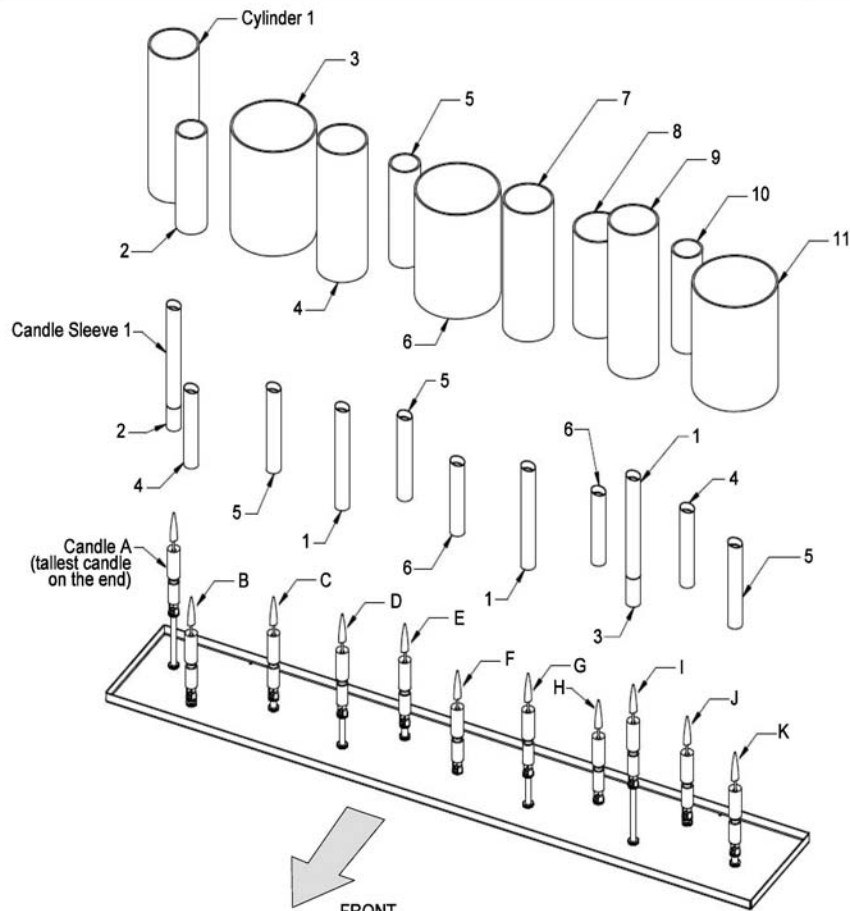

Figure 1
- 2 Install the white plastic candle sleeves over the three candles. See Figure 1 and the table above to identify the components. Figure 2 shows the process.